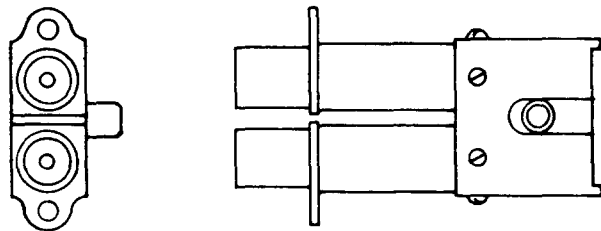

Fig. 4—603A Jack
2.04 603A: This twin coaxial-type jack (Fig. 4) is designed to mate with the 358A or similar-type plug. This jack employs an adapter which allows for cabling at a right angle. The 603A jack is used with the A2AT Video Transmission System.